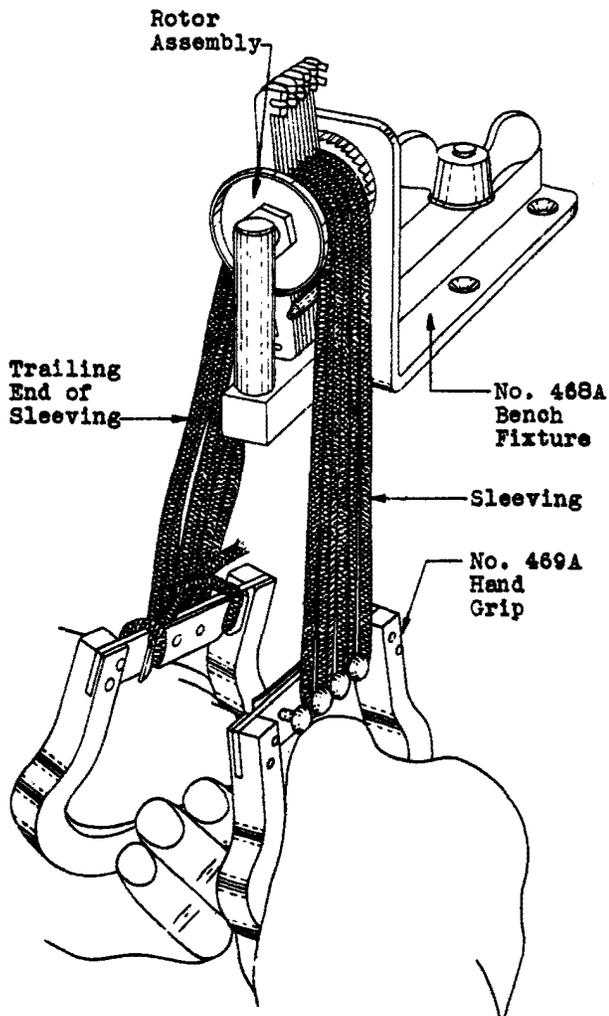

Fig. 12 - Method of Cleaning Rotor Assembly
3.31 In treating, hold the grip which is being pushed so that the strings cover as much of the hub on that side as possible. At the same time have the trailing end slack as shown in Fig. 12. A downward movement of the right hand followed by a downward movement of the left hand is to be considered one stroke. Each movement shall be as long as the sleeving conveniently permits.